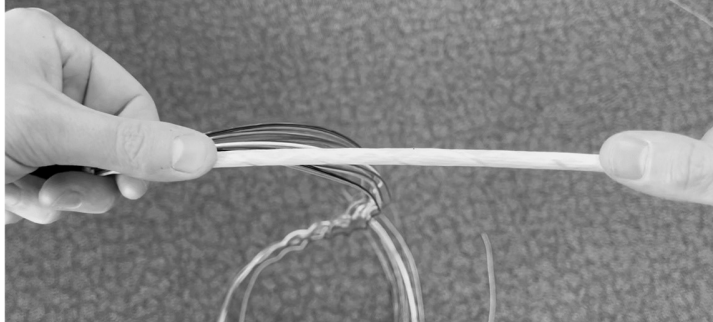
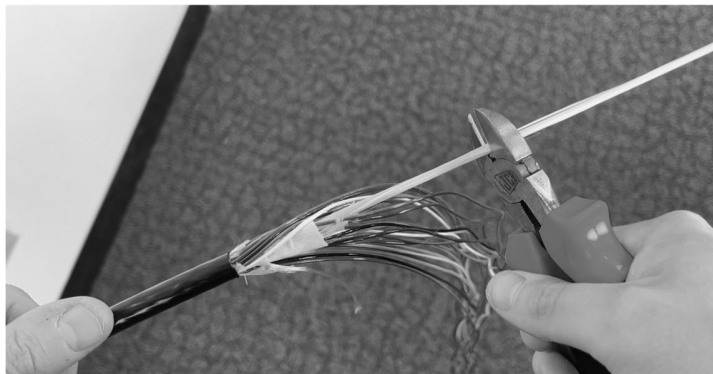

Figure 10 – Water Blocking tape separating Inner Core buffer tubes.
Figure 11 - Cut the central strength member to the required length.
4.11 Inner Core Preparation: Carefully use Kevlar scissors to remove the water blocking tape (Figure 10) and any binder threads which surround the 9 inner buffer tubes making sure to remove in small sections of 300 – 400mm. This will result in the threads and tape being flush to the outer sheath. The 9 buffer tubes can then be unwrapped exposing the central strength element which can be cut to required length (consult splice closure instructions). (Figure 11).